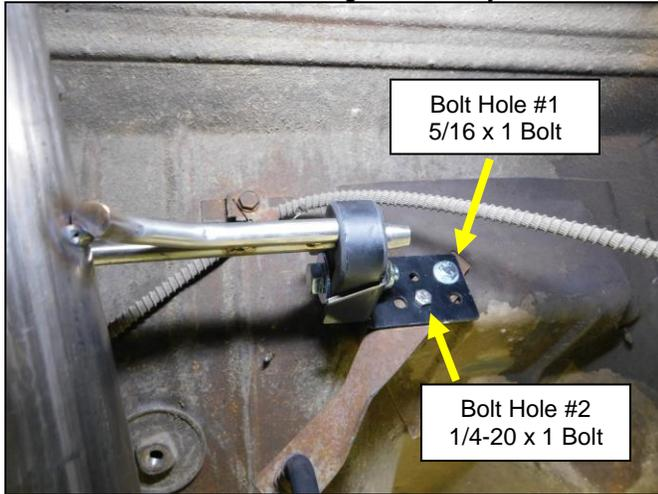

Figure 6
6. Install a provided 5/16 x 1" bolt into bolt hole # 1 of the muffler hanger bracket (Figure 6).
7. Install the Left (driver's side) muffler hanger bracket with a provided 5/16 x 1" bolt in to the same location as the bolt removed from the brake line bracket (Figure 6).
10. Install the provided 1/4-20 x 1" bolt with flange nut and tighten (Figure 6).